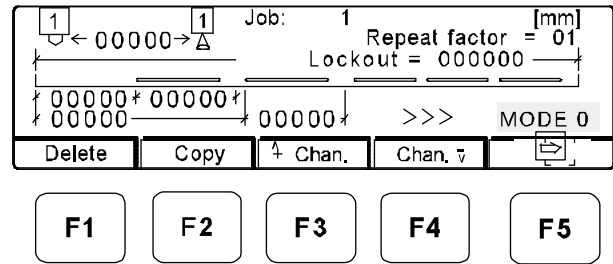

Figure 9-4. "MODE" Field in Glue-Pattern-Edit Menu
1. In the glue-pattern-edit menu, move the cursor to the word "MODE" in the lower right corner of the screen (Figure 9-4).